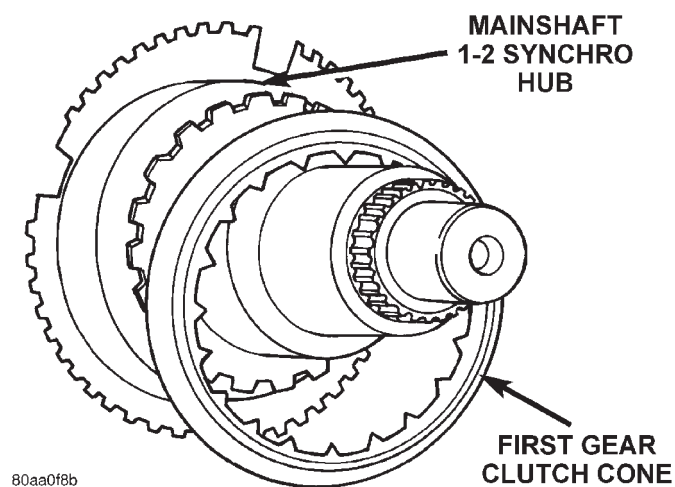

Fig. 93 Installing First Gear Clutch Cone
- (2) Install first gear clutch cone on mainshaft 1-2 synchro hub (Fig. 93). Recessed side of cone faces front. Be sure cone is seated against snap ring previously installed on hub.